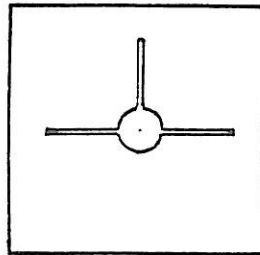

Fig. 13
- Looking through the backsight of the Headlamp Aligner, observe the screen on the Checking Unit. Using the raise and lower handle, move the Aligner so that the illuminated centre aperture and slits of the screen come into view (see Fig. 13).